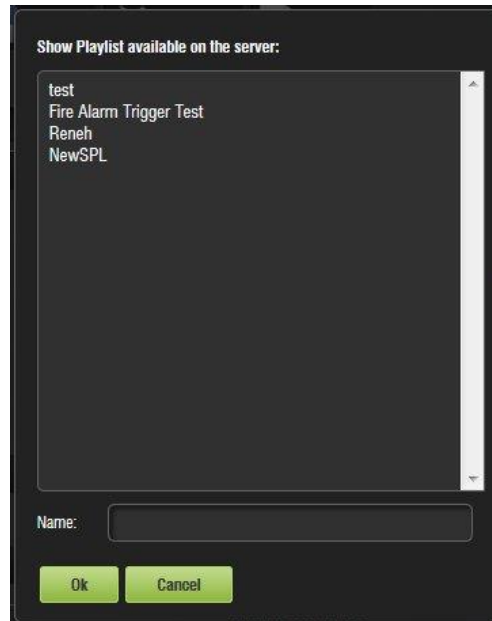

Figure 233: Open SPL
- A new window will appear allowing the user to select the desired SPL (Figure 233).
- The user will be prompted to the SPLs Available on Server window (Figure 233).